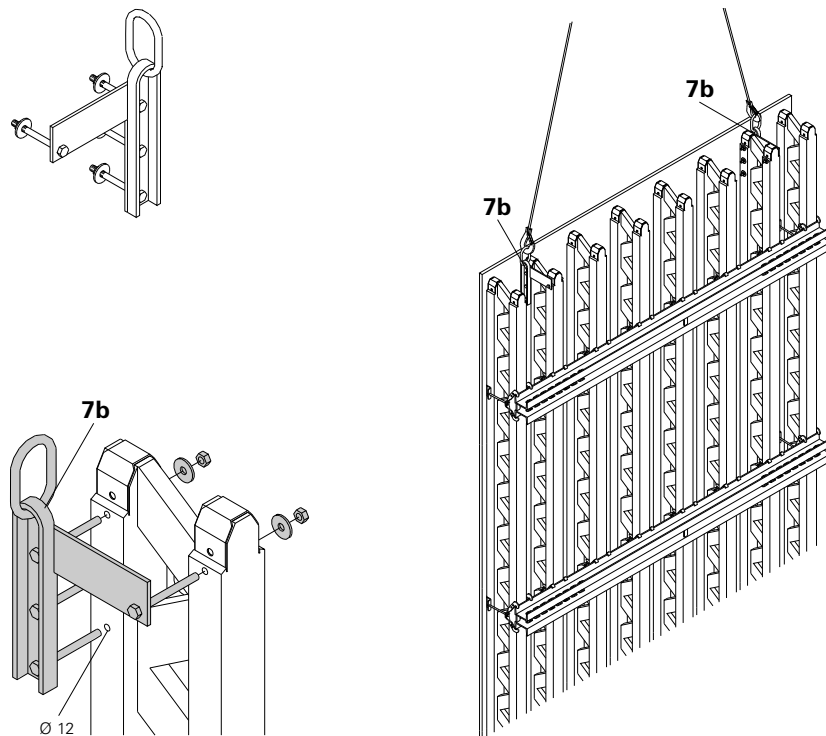

Fig. B3.02
- mount crane eye to outside of girder. (Fig. B3.02)